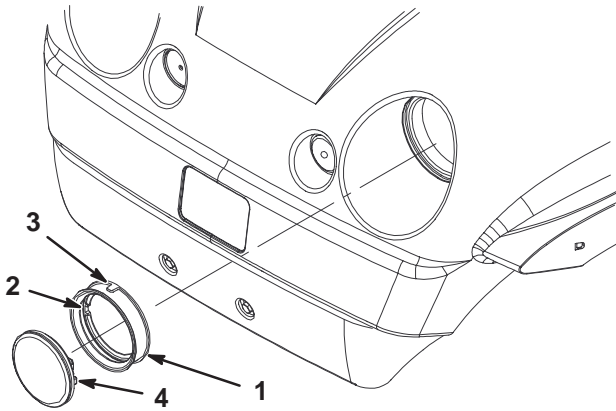

Figure 44
4. Remove the rubber seal from around the headlight (Fig. 44). Discard the headlight.
5. Align the notch on the inside of the seal with the notch on the new headlight (Fig. 44). Slide the seal onto the headlight until the seal is firmly in place.